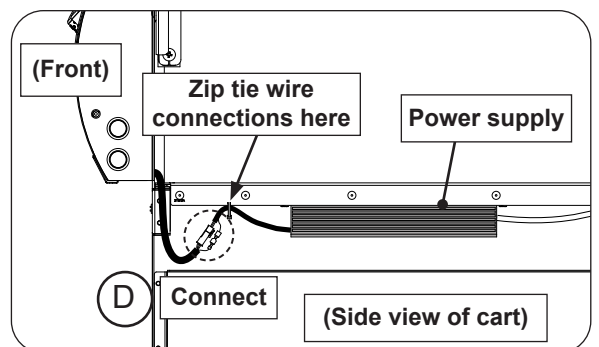

Fig. 11-3 Zip tie electrical connections
4. Connect the appliance wire harness to the power supply. See Fig. 11-3, D.
5. Install a provided zip tie as shown in Fig. 11-3 to keep the electrical connections securely in place.